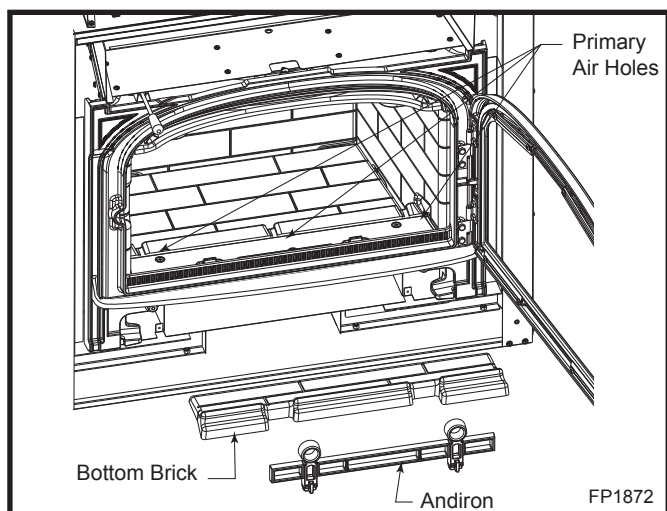

Fig. 37 Keep primary air holes free of ash for proper performance.
Check the ash level, and remove excess ash. Three (3) primary air holes located under the front brick provide air to the coal bed. (Fig. 37) These holes should be cleared of ash for proper performance.